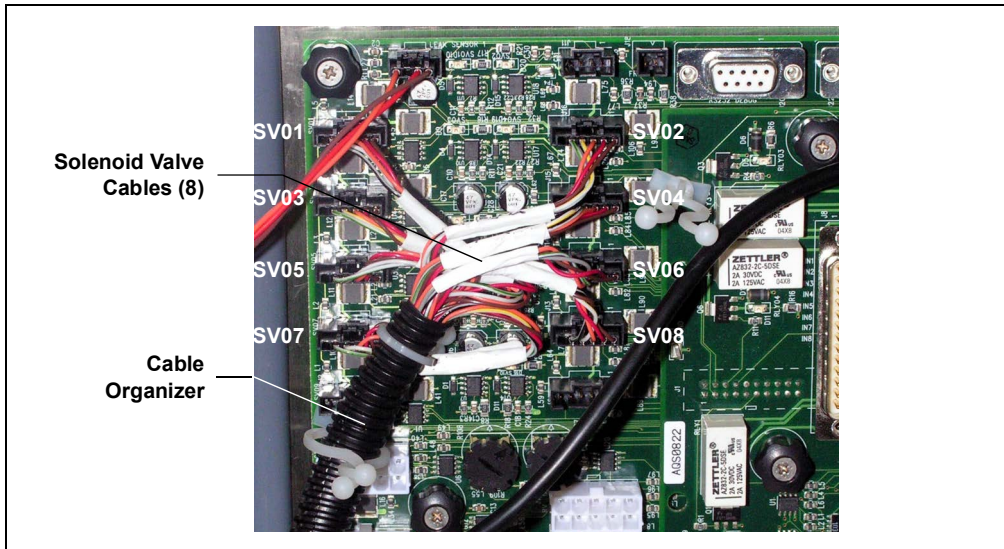

Figure 10-11. Main SP Electronics Board: Solenoid Valve Cable Connections
5. The solenoid valve cables are plugged into connectors in the upper-left corner of the main SP electronics board (see Figure 10-11).
6. A label on the valve mounting plate identifies the number of the valve. Disconnect the valve cable from its corresponding connector on the main SP electronics board (see Figure 10-11).
13. Plug the valve connector into the main SP electronics board (see Figure 10-11). Secure the cable in the cable organizer.